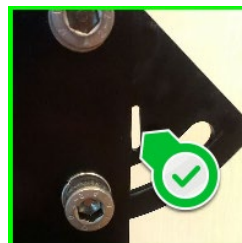

Figure 11: 45° tilt angle
- 5. Incline the radar bracket n°2 in direction to the pavement until the notch appears (Figure 11).